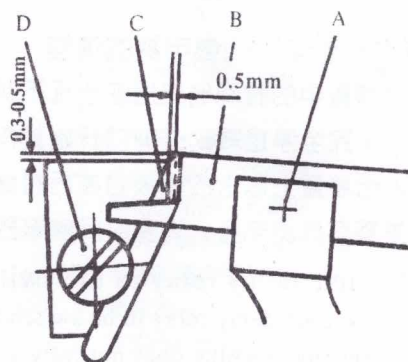

图 12
切刀定片（图12，C）由螺钉（D）固定在车壳底座前端斜槽中，切刀动片（B）由螺钉（A）固定在剪刀架槽中随机器运转而往复动作。切割时动片刀刃应超过定片刀刃0.5毫米（0.020英寸）。
Model YHGK35-2C thread chain cutter are driven by mechanism. The knife (C. Fig.12) is positioned in the tapered slot in the front of base by screw (D). The cutting steel (B) is positioned in the slot of the knife holder by screw (A) and making reciprocating motion by running of the machine. In cutting, the edge of the cutting steel and the knife should overlap by 0.5mm (0.020 in.). For adjustment, loosen screw (A) and (B), set as required, then retighten screw.